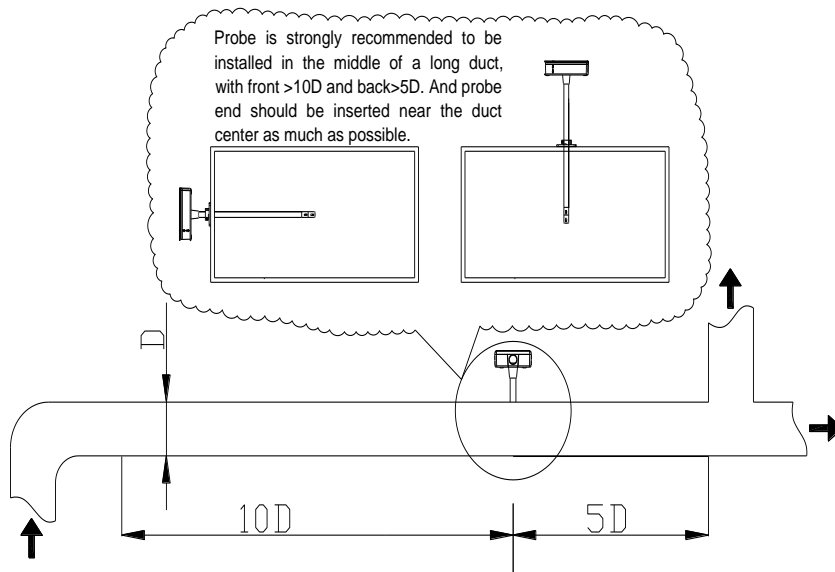

Fig.3
- The air velocity probe should be installed in stable air flow. It is strongly recommended to be installed in the middle of a long duct, with front $>10D$ and back $>5D$. And try to insert the probe end near the duct center as much as possible. Only under these install conditions, it can show the virtual air velocity in the duct (Fig.3).